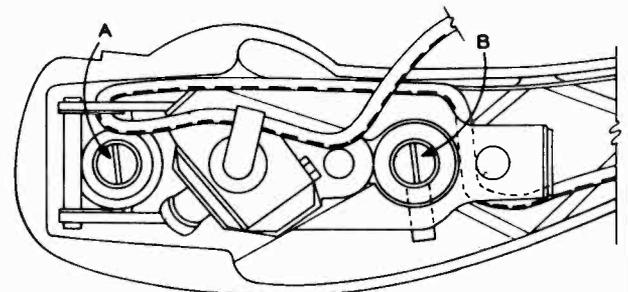

Fig. 10
**CAUTION:** Closely observe the original placement of the pickup cord and replace it in the same position. (See Fig. 10). Do not push hard on the needle end of the cartridge. Bending the mounting bracket will cause improper tracking
1. Remove mounting screws from mounting studs A and B, Fig. 10.